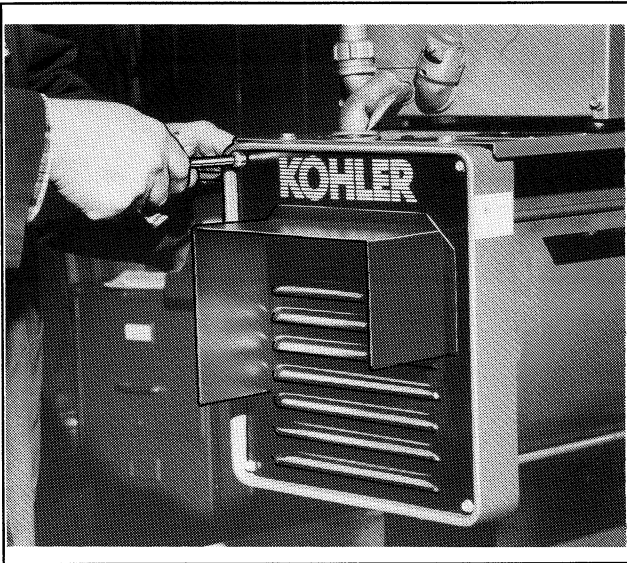

Figure 8-1. Removing End Bracket Panel
1. Remove the four screws securing the end bracket panel. Remove the panel to expose the end bracket assembly. See Figure 8-1.